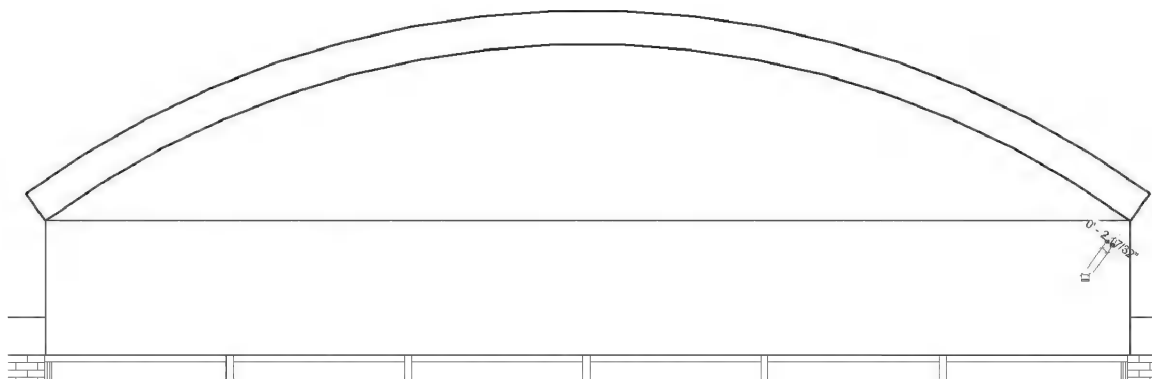

FIGURE 8-6.19 South Elevation; two arcs and two short lines define roof profile
50. Zoom in and draw a short line on each end of the arc as shown in Figure 8-6.19; try typing SE before picking to make it easier to snap to the arc's endpoints. (Make sure *Offset* is set back to zero.)